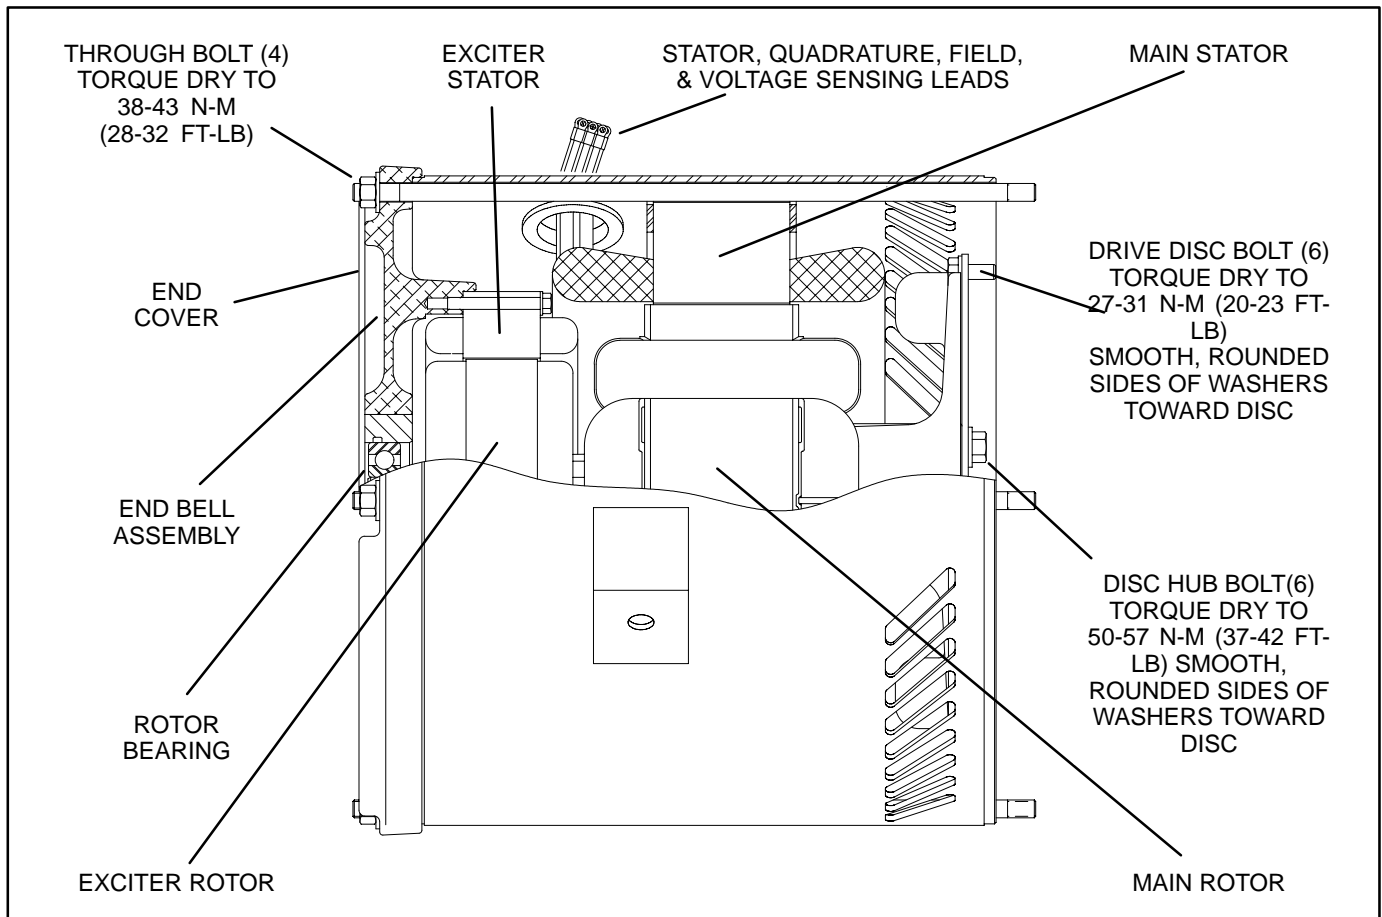

FIGURE 17. GENERATOR ASSEMBLY
These are 4-pole, rotating-field, brushless, single-bearing, electronically regulated generators (Figure 17). See BASICS at the end of this section for a description of generator operation.
8. Cinch a strap around the rotor and remove the six disc-to-flywheel bolts (Figure 17). When removed, cradle the rotor horizontally in wooden blocks to prevent damage to windings, laminations and drive disc.
2. Torque the six disc-to-hub bolts (Figure 17) to 50-57 N-m (37-42 lb-ft). Make sure that:
3. Torque the six disc-to-flywheel bolts (Figure 17) to 27-31 N-m (20-23 lb-ft). Make sure the rounded edges of the washers are on the disc side.